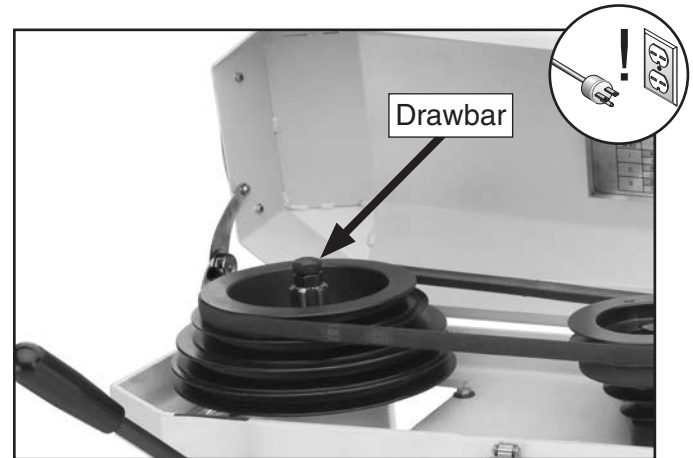

Figure 38. Drawbar inserted through the top of the spindle.
3. Open the V-belt cover and rotate the adjustment hex nut to the top of the drawbar to extend the drawbar fully within the spindle (see **Figure 38**).